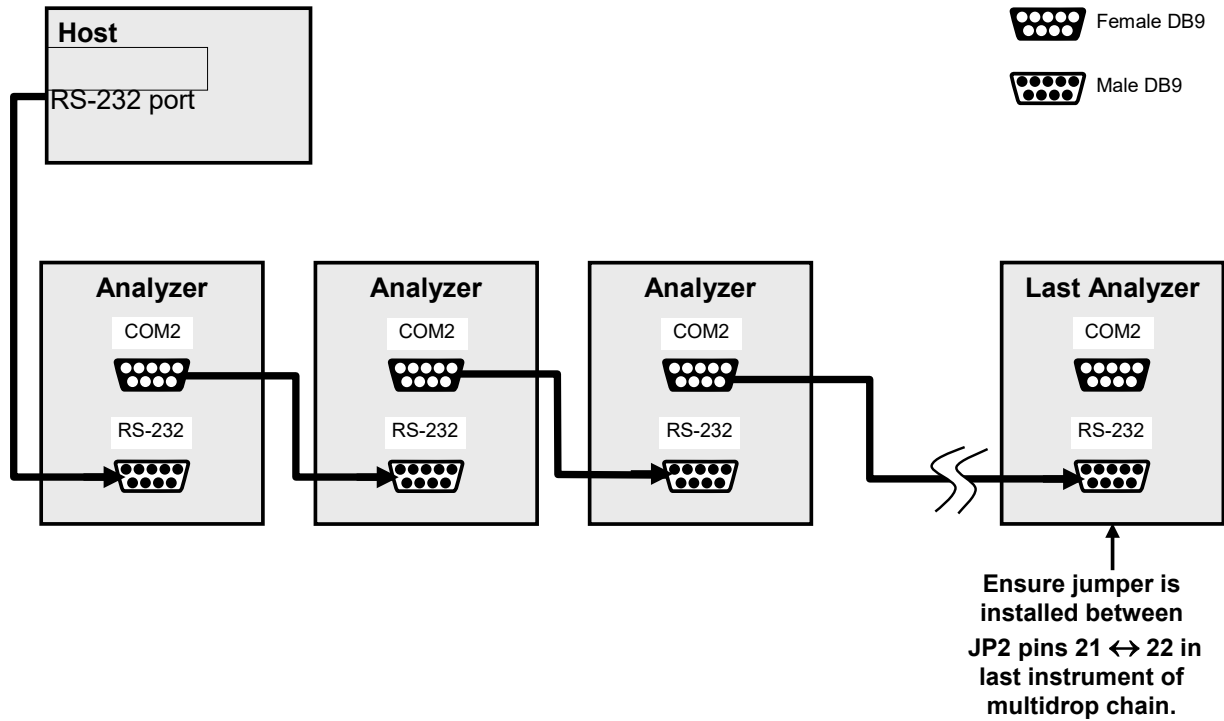

**Figure 2-13. Jumper and Cables for Multidrop Mode**
In each instrument with the Multidrop option there is a shunt jumpering two pins on the serial Multidrop and LVDS printed circuit assembly (PCA), as shown in Figure 2-13. This shunt must be removed from all instruments except that designated as last in the multidrop chain, which must remain terminated. This requires powering off and opening each instrument and making the following adjustments:
2. On the Multidrop/LVDS PCA's JP2 connector, remove the shunt that jumpers Pins 21 ↔ 22 as indicated in Figure 2-13. (Do this for all but the last instrument in the chain where the shunt should remain at Pins 21 ↔ 22).
3. Check that the following cable connections are made in *all* instruments (again refer to Figure 2-13):